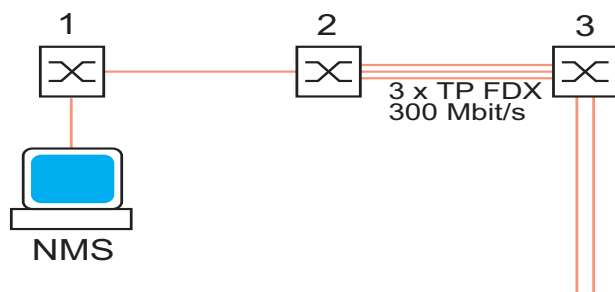

Figure 2: Example: “Defining the first device”
- In the example below (see fig. 2), you configure the link aggregation first on device 3, then on device 2. If you accidentally disconnect device 3 from the network, you can access it again by selecting “Allow static link aggregation” in the `Redundancy: Link Aggregation` dialog, or by activating this option via the CLI.